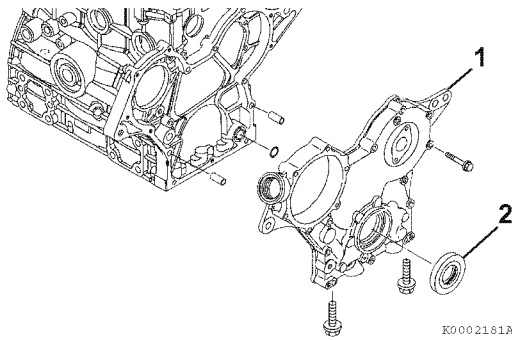

Figure 6-63
1. Remove the seal (2, **Figure 6-63**) from the gear case cover (1, **Figure 6-63**).
2. Apply a continuous bead of ThreeBond Liquid Gasket No. 1212F, YANMAR Part No. 977770-1212F to the outside diameter of a new oil seal (2, **Figure 6-63**).